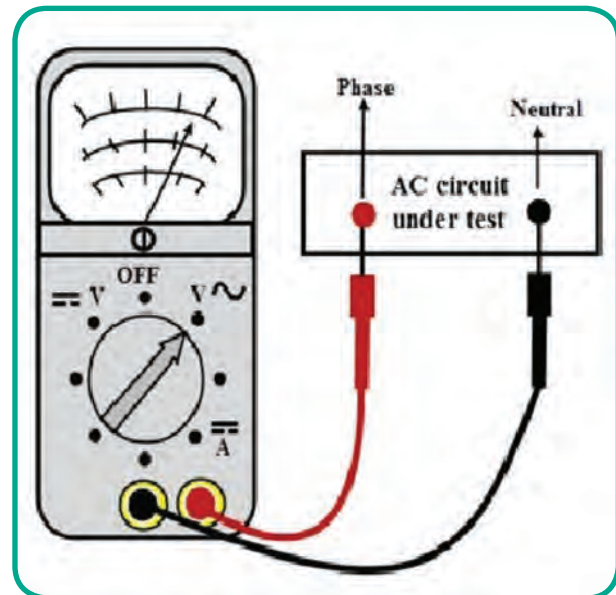

Figure 10.12 Connecting a multimeter while measuring AC voltage
4. While measuring AC voltages, it should be connected in parallel but polarity need not be considered as shown in Figure 10.12. Because AC supply has no fixed polarities (+ and -).